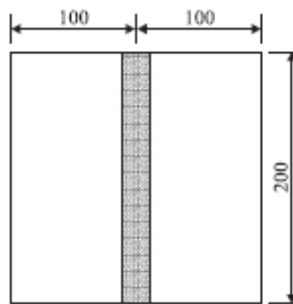

Fig. 5.6
- 6 Calculate the cost of welding two plates  $200 \text{ mm} \times 100 \text{ mm} \times 8 \text{ mm}$  thick to obtain a piece  $200 \text{ mm} \times 200 \text{ mm} \times 8 \text{ mm}$  approximately using rightward welding technique Fig. 5.6. BT3